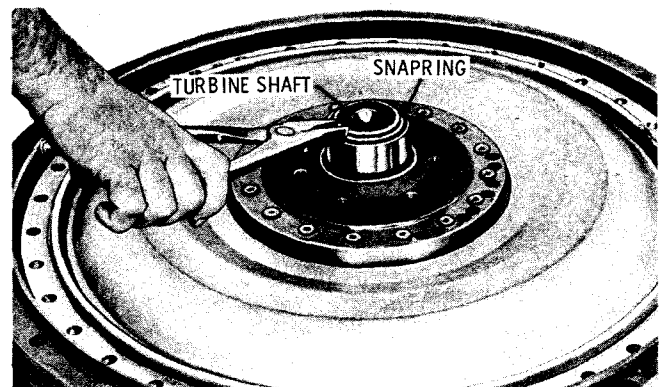

Fig. 5-21. Removing snapring from turbine shaft
(1) Using snapring pliers, remove the snapring from the turbine shaft (fig. 5-21).